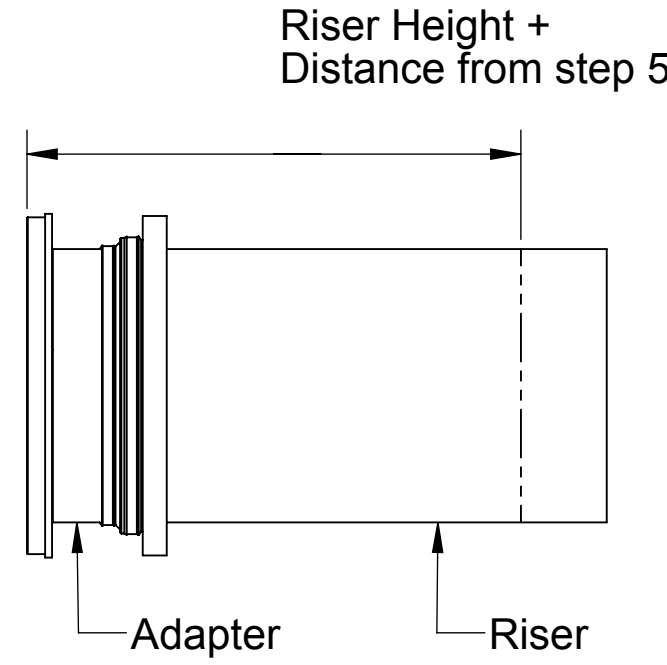

Figure 2
5. From the top of the adapter, measure your needed total riser height downward to the sidewall of the riser. Then, add 5" (for GB-35 or GB-50) or 6" (for GB-75, GB-125 or GB-250). For example, if you have a GB-250 and need a 15-1/2" extension, you would measure down from the top of the adapter 21-1/2" (15-1/2" + 6" = 21-1/2"). See Figure 2.